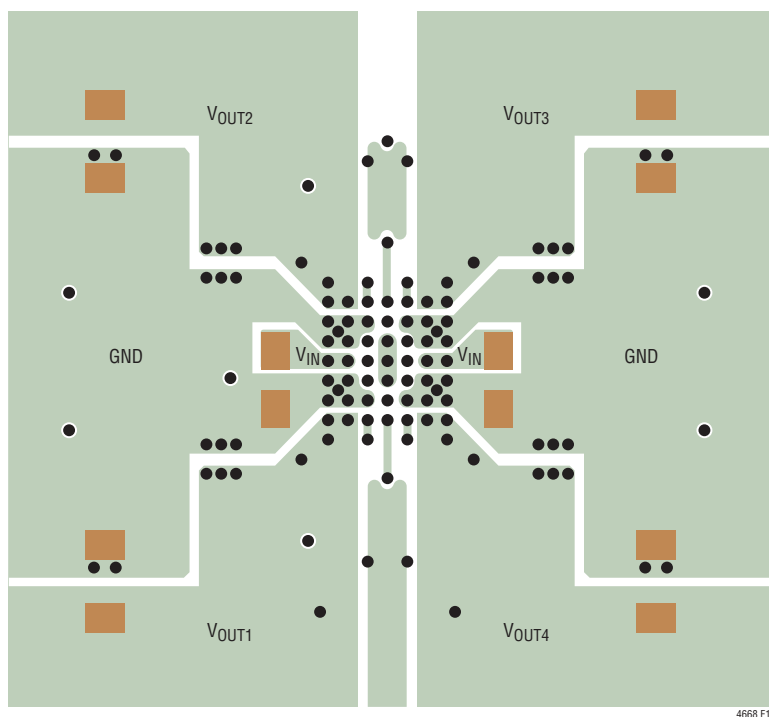

Figure 16. Recommended PCB Layout
- Bring out test points on the signal pins for monitoring. Figure 16 gives a good example of the recommended layout.